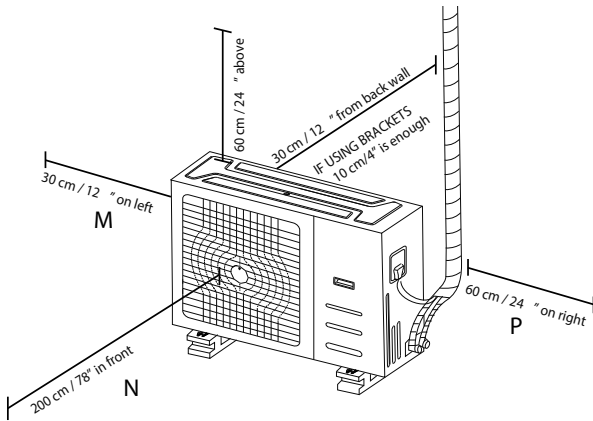

Fig. 6.10
**NOTE:** The minimum distance between the outdoor unit and walls described in the installation guide does not apply to airtight rooms. Be sure to keep the unit unobstructed in at least two of the three vectors (M, N, P) (See Fig. 6.10)